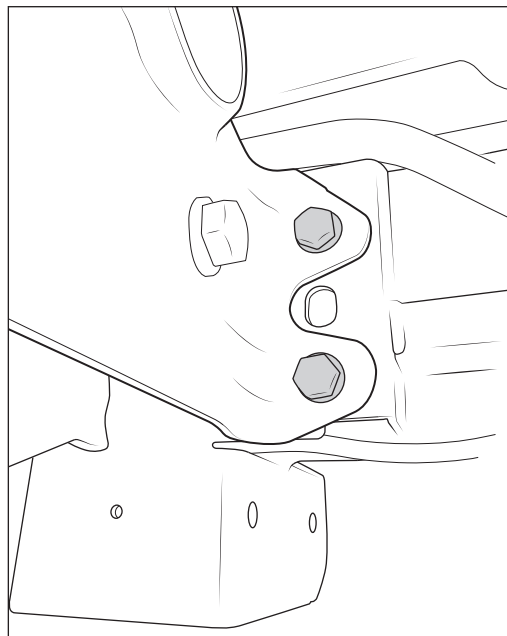

Figure 29
4. Align and install the four factory bolts saved in disassembly onto the backside mounting points of the center section (fig. 29).